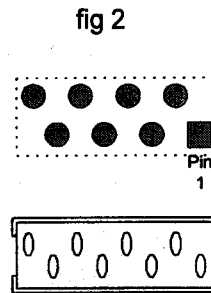

fig 3
6. Slide IA00 out far enough to access connector K10. This is a red connector located behind the screening can, towards the top of the card and approximately halfway down its length. It is similar in appearance to fig 3 below.